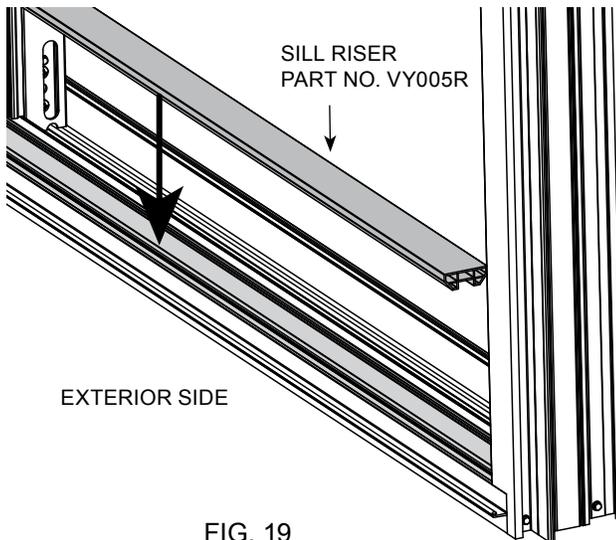

FIG. 19
1. Install the sill riser strip into the sill before the fixed panel. (FIG. 19)